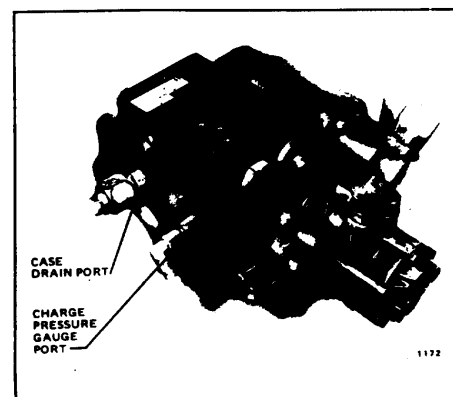

FIGURE 6. Location of parts when installing a new link and ball assembly.
- A. Unscrew the bushing, using care not to damage its O-ring. See Figure 6.